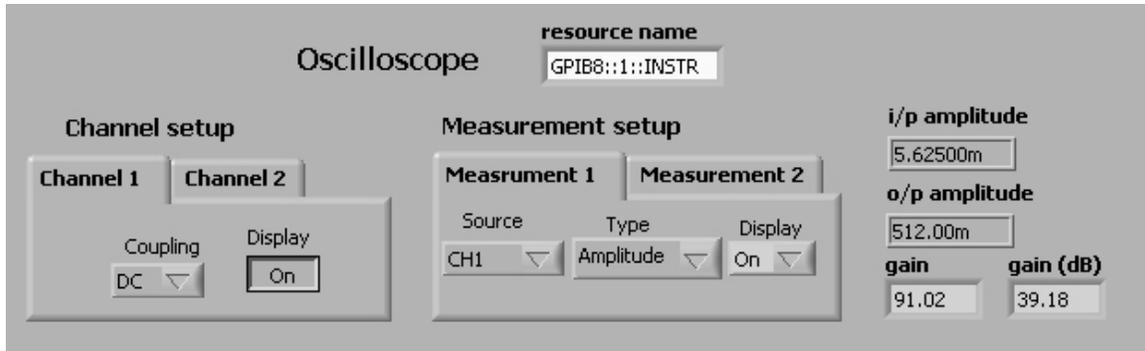

Figure 9: Oscilloscope front panel
7. The front panel can be arranged as shown in the Figure 9.